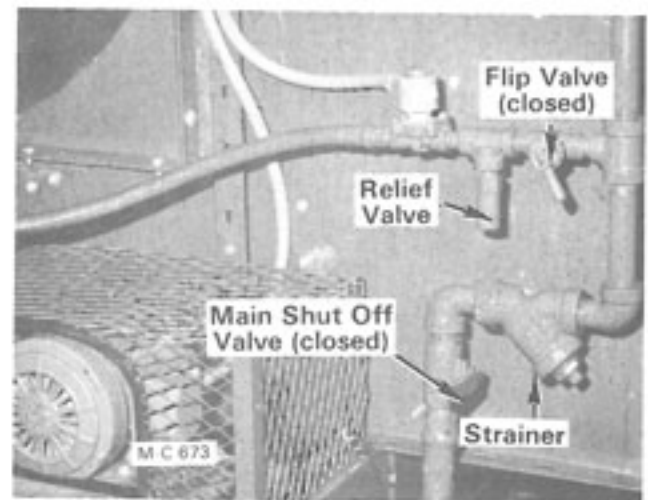

Figure 33
- LP Gas** - Open the supply valve at the tank and open (lift up) the liquid line flip valve for burner. See Figure 33.